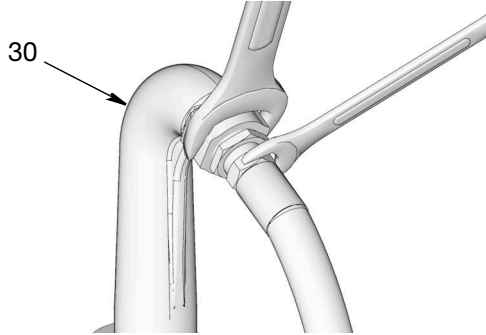

FIG. 9
- Attach end of the hose to the outlet (30) using two wrenches on the flats, working in opposite directions, to securely tighten the hose to the outlet fitting (FIG. 9).